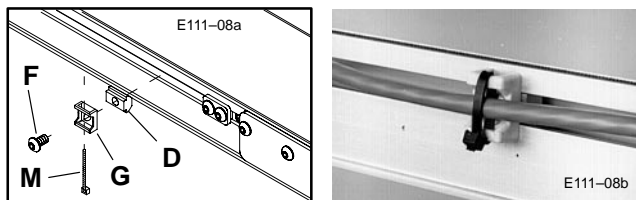

Figure 8: Zip Tie Mounting Detail
- d. To route Cable over a previously mounted component or to anchor the Cable, use the Zip Tie Mounts (G) and Single Drop-in T-bars (N), (Figure 8). Secure each Zip Tie Mount with an M6 x 10 mm Button Head Cap Screw (F). Tighten the Screws with the 4 mm Hex Key Wrench (K) provided.